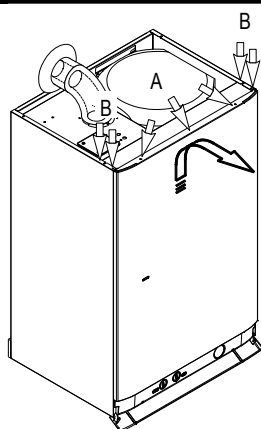
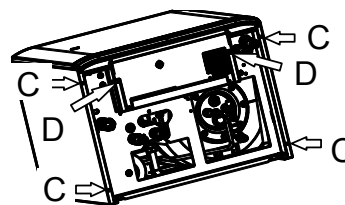

Figure 17.1
Figure 17.2
- Loosen the three screws A (Fig. 17.1)
- Loosen the screws B (Figure 17.1) and C (Figure 17.2). Bring the bottom of the panels away from the boiler and lift them, freeing them from the top hooks.